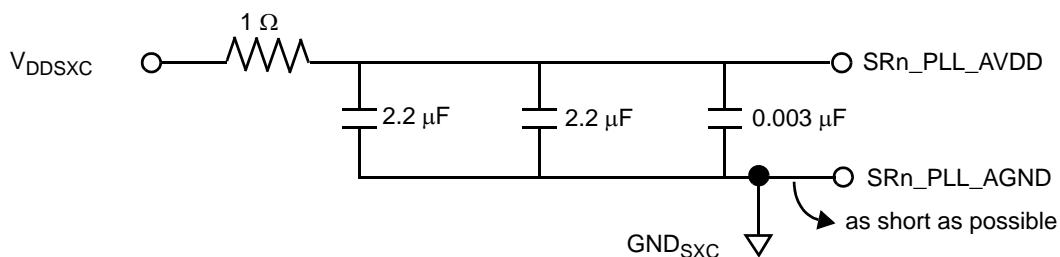

Figure 38. SerDes PLL Supplies
- Couple inputs SR1_PLL_AVDD and SR2_PLL_AVDD with SXCVDD1 and SXCVDD2 power rails, respectively, using an RC filter (see Figure 38).
Each SerDes PLL power supply must be filtered using a circuit similar to the one shown in Figure 38, to ensure stability of the internal clock. For maximum effectiveness, the filter circuit should be placed as closely as possible to the SR_n_PLL_AVDD ball to ensure it filters out as much noise as possible. The ground connection should be near the SR_n_PLL_AVDD ball. The 0.003 μF capacitor is closest to the ball, followed by the two 2.2 μF capacitors, and finally the 1 Ω resistor to the board supply plane. The capacitors are connected from SR_n_PLL_AVDD to the ground plane. Use ceramic chip capacitors with the highest possible self-resonant frequency. All trances should be kept short, wide, and direct.